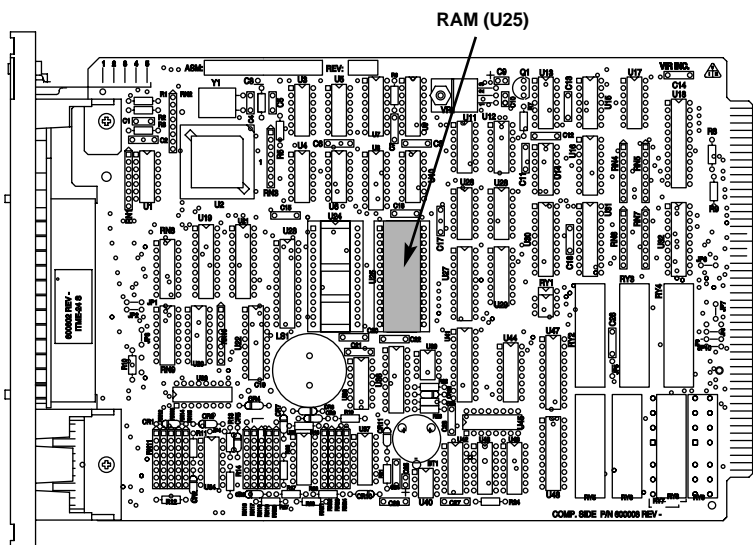

Figure 13-1. Position of the RAM chip on the control/test module.
3. Remove the RAM chip from position U25 (see Figure 13-1) on the control/test module.